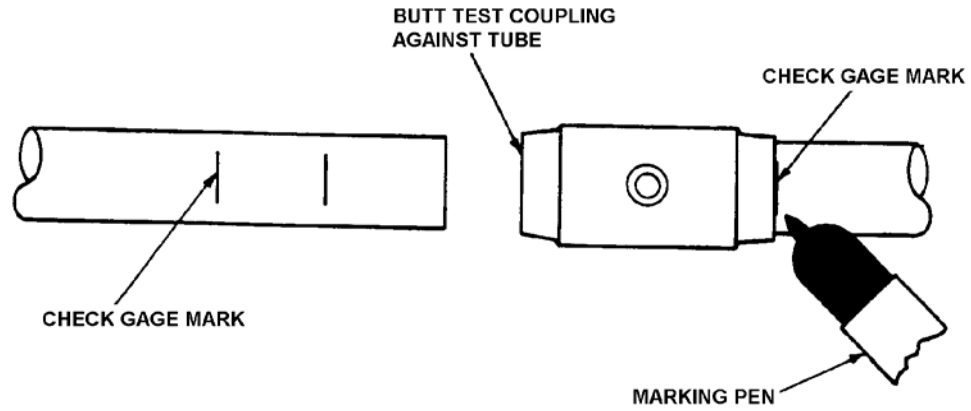

Figure 5. Locating Check Gage Marks on Coupling
g. Reposition the test coupling so it is flush with the tube end. Draw a second line at the opposite end of the test coupling. This is the check gage mark (Figure 5). Repeat on the second tube.